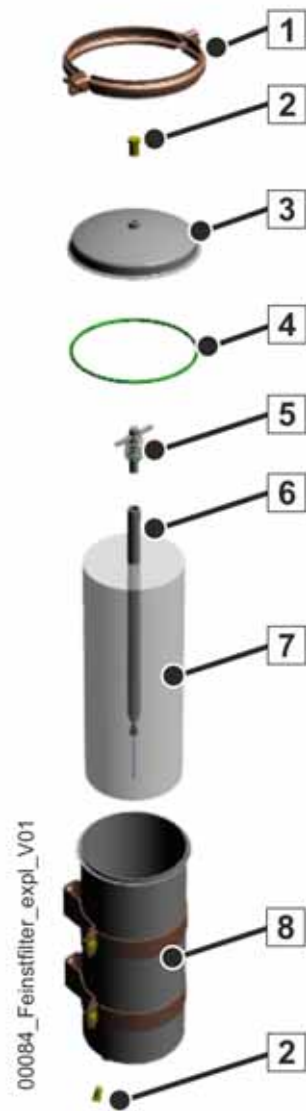

Fig. 548 Design of the ultra-fine filter
Caption (Fig. 548)
- Carefully remove the screw connection on the cover retaining clamp (1) (**Fig. 548**). Only remove the cover (3) if the oil level has gone down as the oil will overflow otherwise.
- Remove the cover retaining clamp (1) and the filter cover (3) (**Fig. 548**).
- Loosen and remove the retaining bolt (5) for the filter element (7). Replacing the retaining bolt seal is part of replacing the filter.
- Tighten the filter element (7) on the specially-provided stirrups of the drain pipe (6).
- Remove the coarse contamination in the filter housing (8) (**Fig. 548**).
- Inspect the cover seal (4) for damage and replace it if necessary.